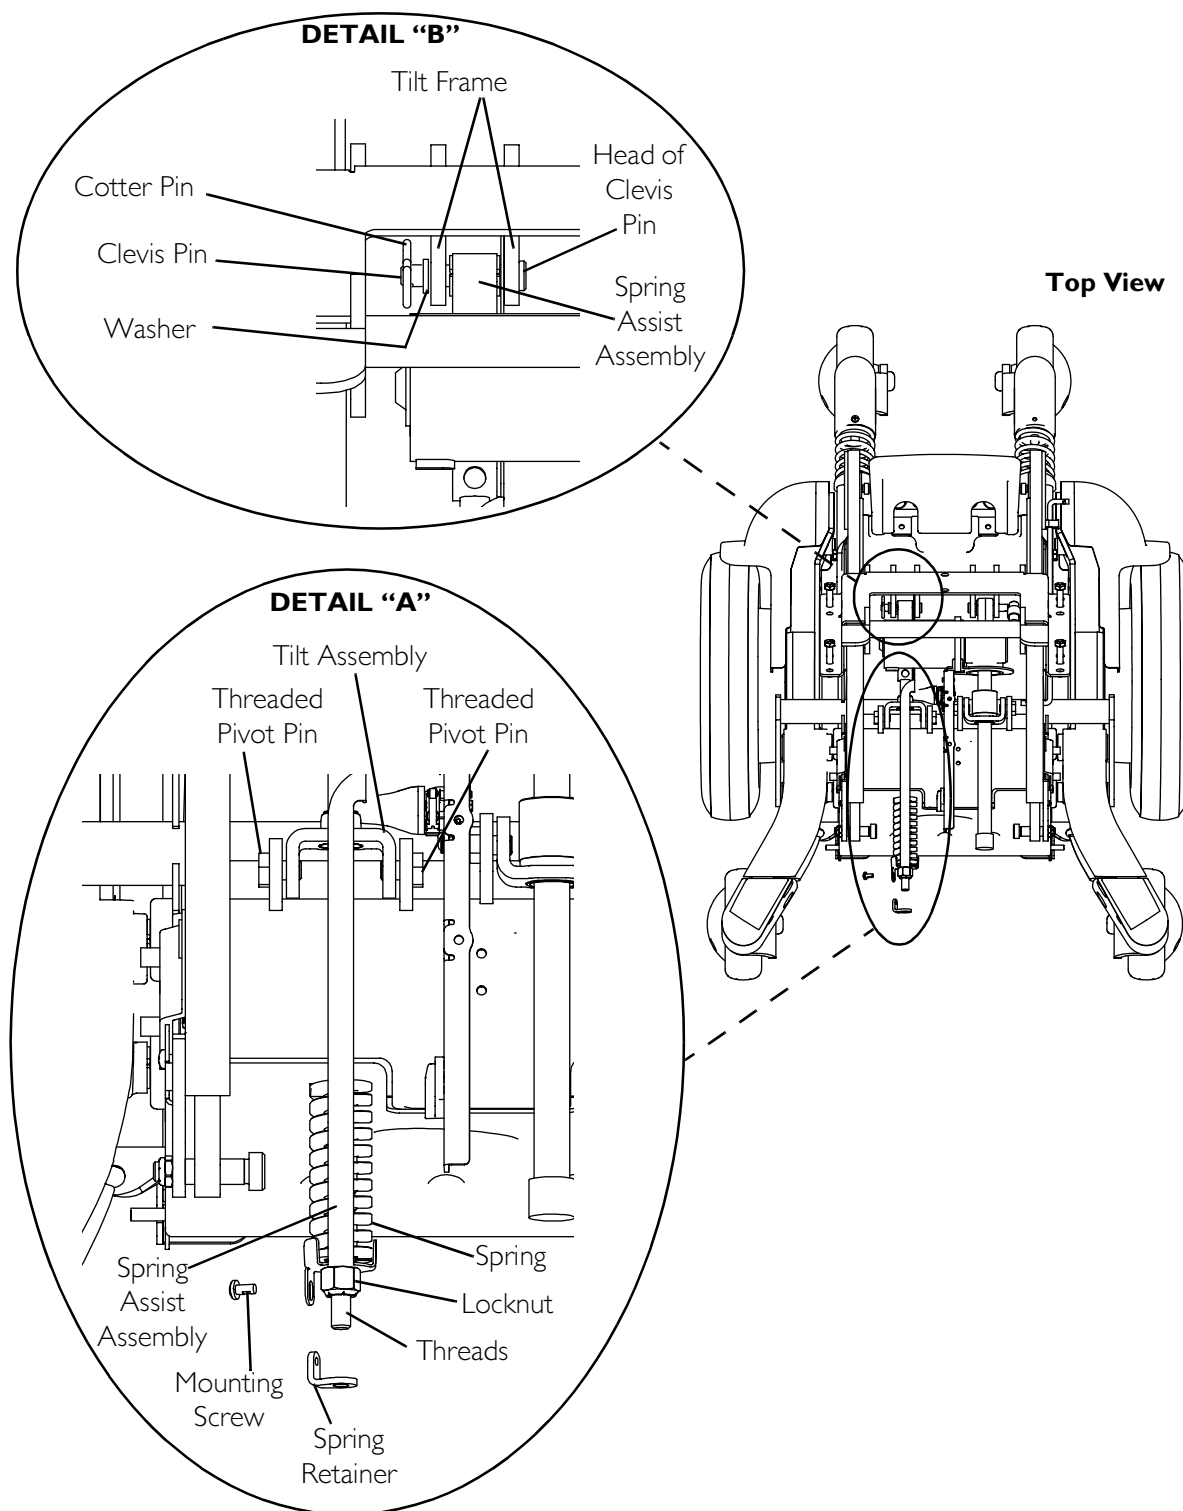

FIGURE 10.8 Removing/Installing the Spring Assist Assembly
NOTE: For this procedure, refer to FIGURE 10.8 on page 118.
1. Position the spring assist assembly onto the tilt frame as shown in FIGURE 10.8.